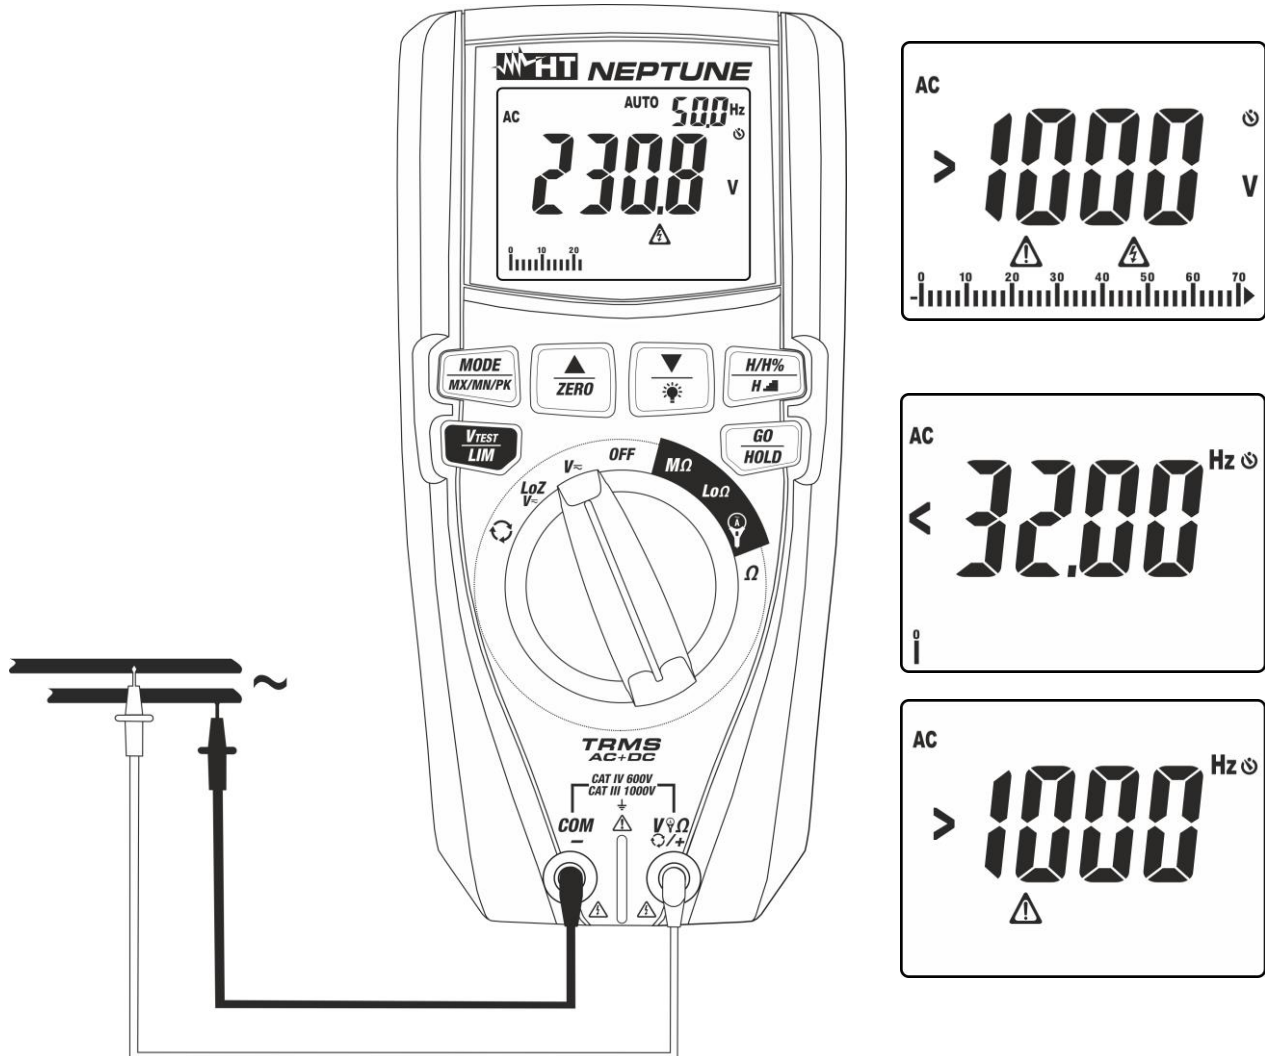

Fig. 7: Use of the instrument for AC voltage measurement
4. Position the red lead and the black lead respectively in the spots of the circuit to be measured (see Fig. 7). The display shows the value of voltage. On the top of the display on the right side, the value of voltage frequency is displayed. Press key **MODE/MX/MN/PK** to display the value of frequency with a higher resolution.
5. If the display shows the message “>1000V” (see Fig. 7), the maximum measurable value has been reached.
6. If the display shows the messages “<32Hz” or “>1000Hz” (see Fig. 7), the value of frequency is out of the measuring range $32\text{Hz} \div 1000\text{Hz}$.